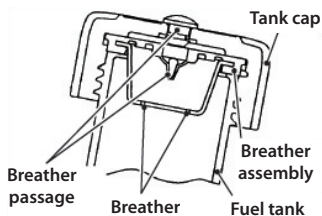

**FIG. 23 – REFRIGERATION FILTER CLEANING**
#### 14.1.5) Refrigeration filter cleaning (Ref. to Fig. 23)
- Using a 14 mm key, unscrew the refrigeration coupling (02).
- Reassemble the filter into the coupling (02) as shown in the figure 23, fully tighten the coupling.